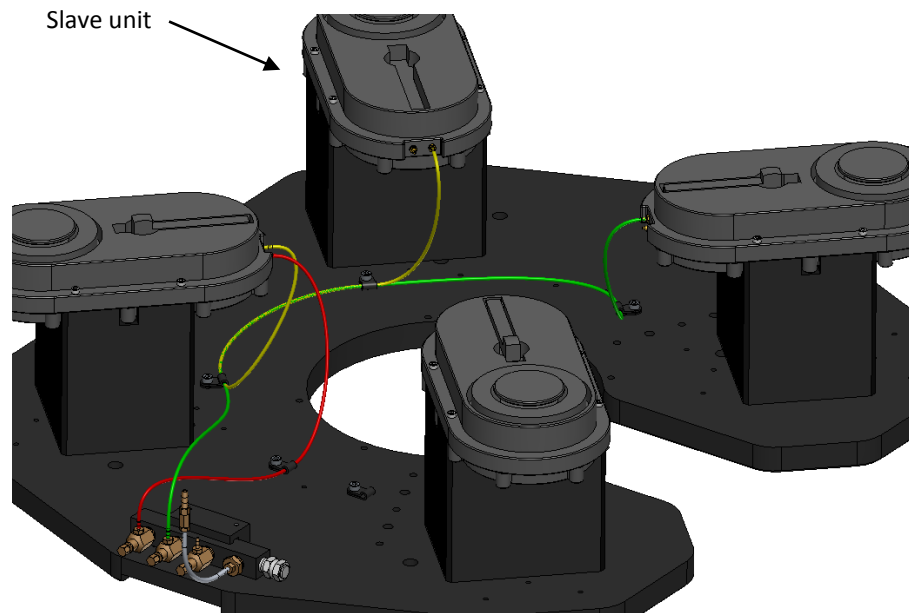

Figure 6
- Refer to **Figure 6**. Route the flexible tubing from the slave pod to its controlling pod as shown below by the yellow tube. Tuck this tube under the tubing that was previously routed (shown in green). Route the flexible tubing from the controlling pod to the manifold as shown below by the red tube. Secure the flexible tubing using another P11374 and P10261.